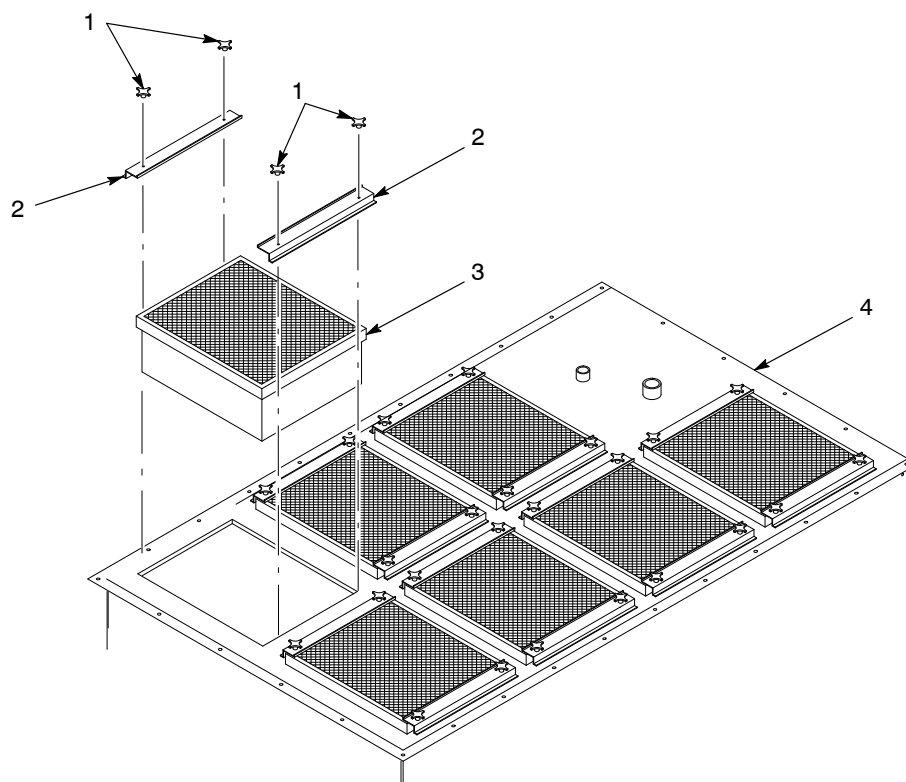

Figure 7-2 Final Filter Replacement
3. See Figure 7-2. Remove the final filter brackets (2) by removing the clamping knobs (1).
4. Lift the old final filter (3) out of the after filter.
5. Inspect the interior of the fan housing (4). If you see large amounts of powder inside of the housing, powder is leaking through the cartridge filters or mounting plate. Fix the leak before starting the system.